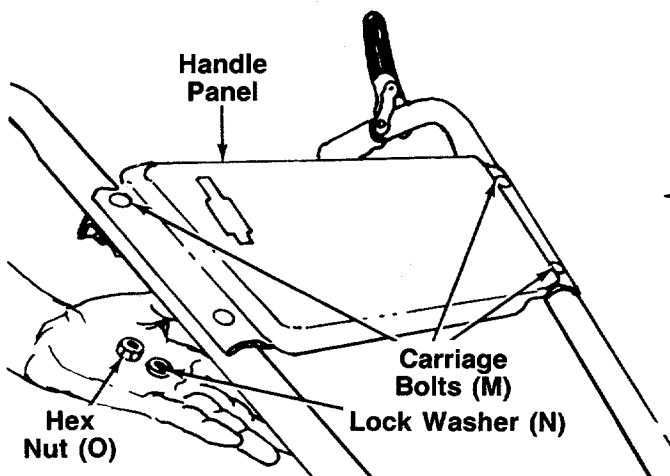

FIGURE 6.
1. Attach the handle panel to the handles using carriage bolts (M), lock washer (N) and hex nuts (O). See figure 6. Do not tighten.